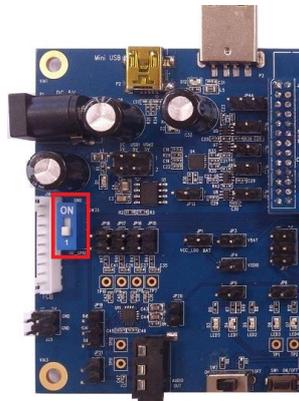

Figure 3. AB161x EVK Engineering mode setting
- 4) Switch JP35 to on (OD_GPIO1 = Low) and power on. Put the DUT into Engineering mode, as in Figure 3.